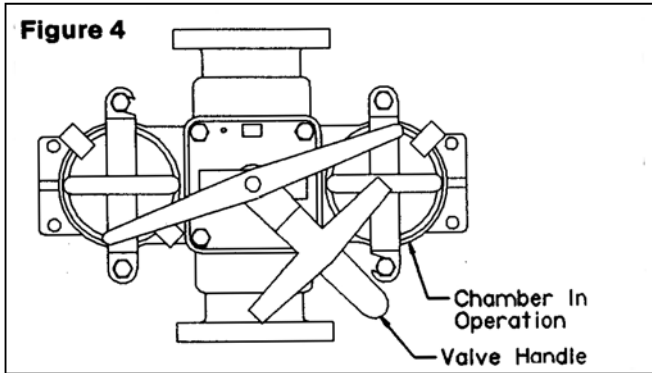

**Figure 3
**CAUTION: A vent is required when fluids other than water and with temperatures in excess of 120°F are to be handled by the strainer. The vent must be piped to a safe discharge point to protect the operator (see Figure 3). Wear protective clothing which includes gloves, vests, and goggles when handling dangerous fluids.**
Open both chamber vents, if strainer is so equipped (see figure 3), to expel air from the strainer.
Tightly close pipeline valve on inlet and outlet connections of the strainer. Open vents, (see figure 3), to relieve liquid pressure in the strainer.
Hand tighten yoke studs and tighten the center T- bolt. Make sure vent is open, if strainer is so equipped, (see Fig 3); close drain valve and refill basket chamber with fluid as follows: